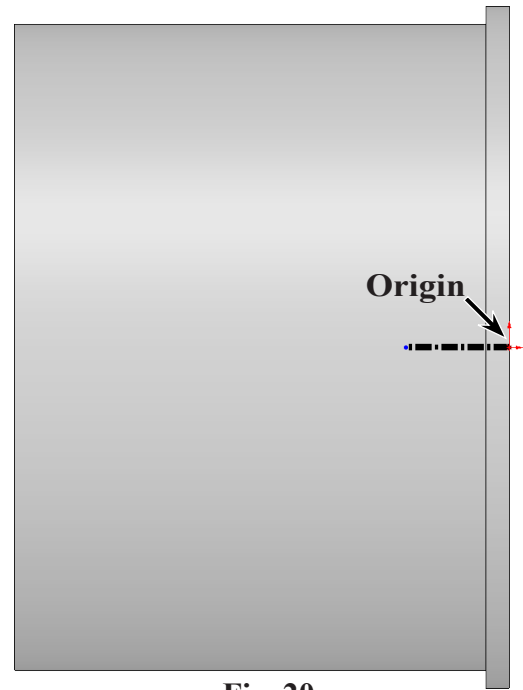

Fig. 20
Step 5. Sketch line out to the left from Origin, Fig. 20.
Step 6. Click **Circle** (S) on the Sketch toolbar.